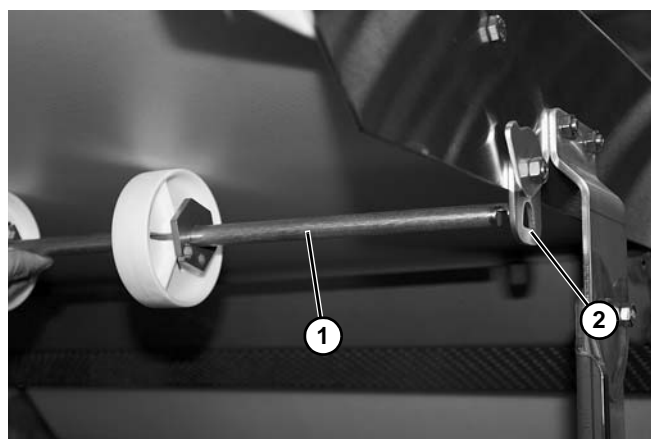

Figure 20
5. Install belt return assembly (Figure 20, item 1) onto return brackets (Figure 20, item 2).